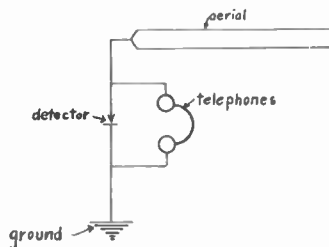

Fig. 57.—Simple Single Circuit Receiver.
1. Simple receiver (Figure 57).